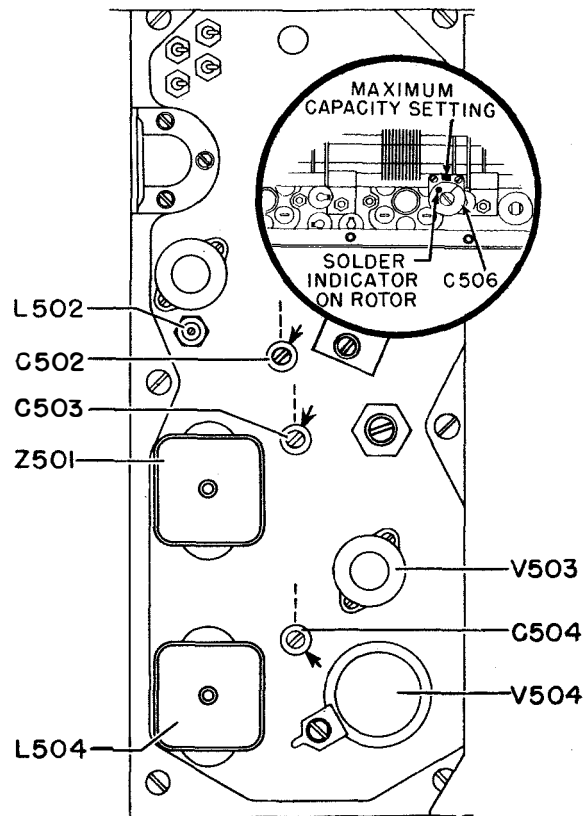

Figure 7-20. Preliminary Settings for Alignment of Multiplier
In Figure 7-20, the capacitors are shown with maximum capacity indicated by dotted lines, the approximate settings by arrows. Turn the adjustment slot until the end with the soldered connection is adjacent to the position indicated by the arrow. Capacitor C506 is located inside the unit and is accessible when the bottom cover is removed. Adjust as shown in the insert in the illustration. Further adjustment of C506 is not necessary therefore the bottom cover should be replaced.
Step 7. Adjust trimmer capacitors, C502, C503, and C504, shown in Figure 7-20, for peak meter indication by means of an insulated screwdriver blade alignment tool.